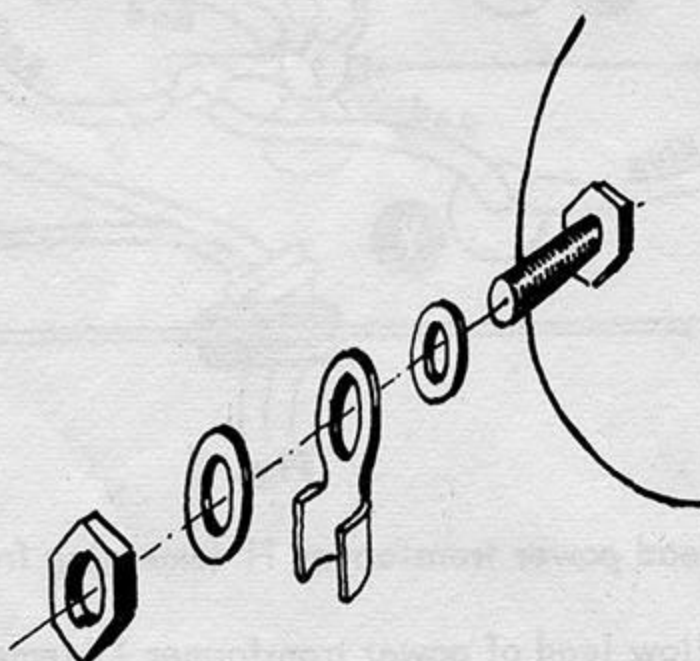

Fig. 4
- () Fig. 4. Mount the remaining hardware found in the meter movement box on the meter terminals.